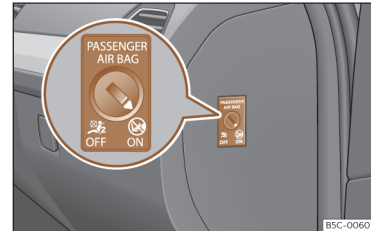

Fig. 28 Switch for activating and deactivating the front passenger airbag.
- Insert the key blade into the slot provided in the front passenger airbag disconnection switch >>> **Fig. 28**. About 3/4 of the key should enter; this is as far as it will go.